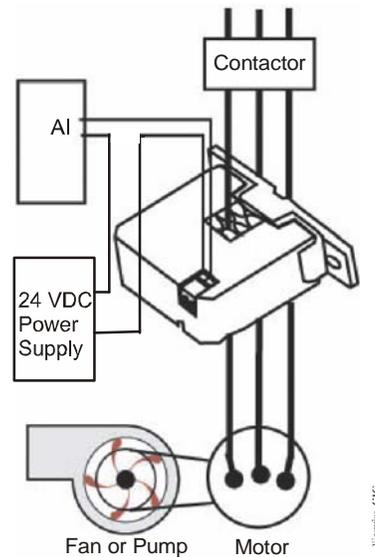

Figure 2: Model CTD-C1G00-1
5. Reconnect the power conductor cable. For a wiring example, see Figure 2.